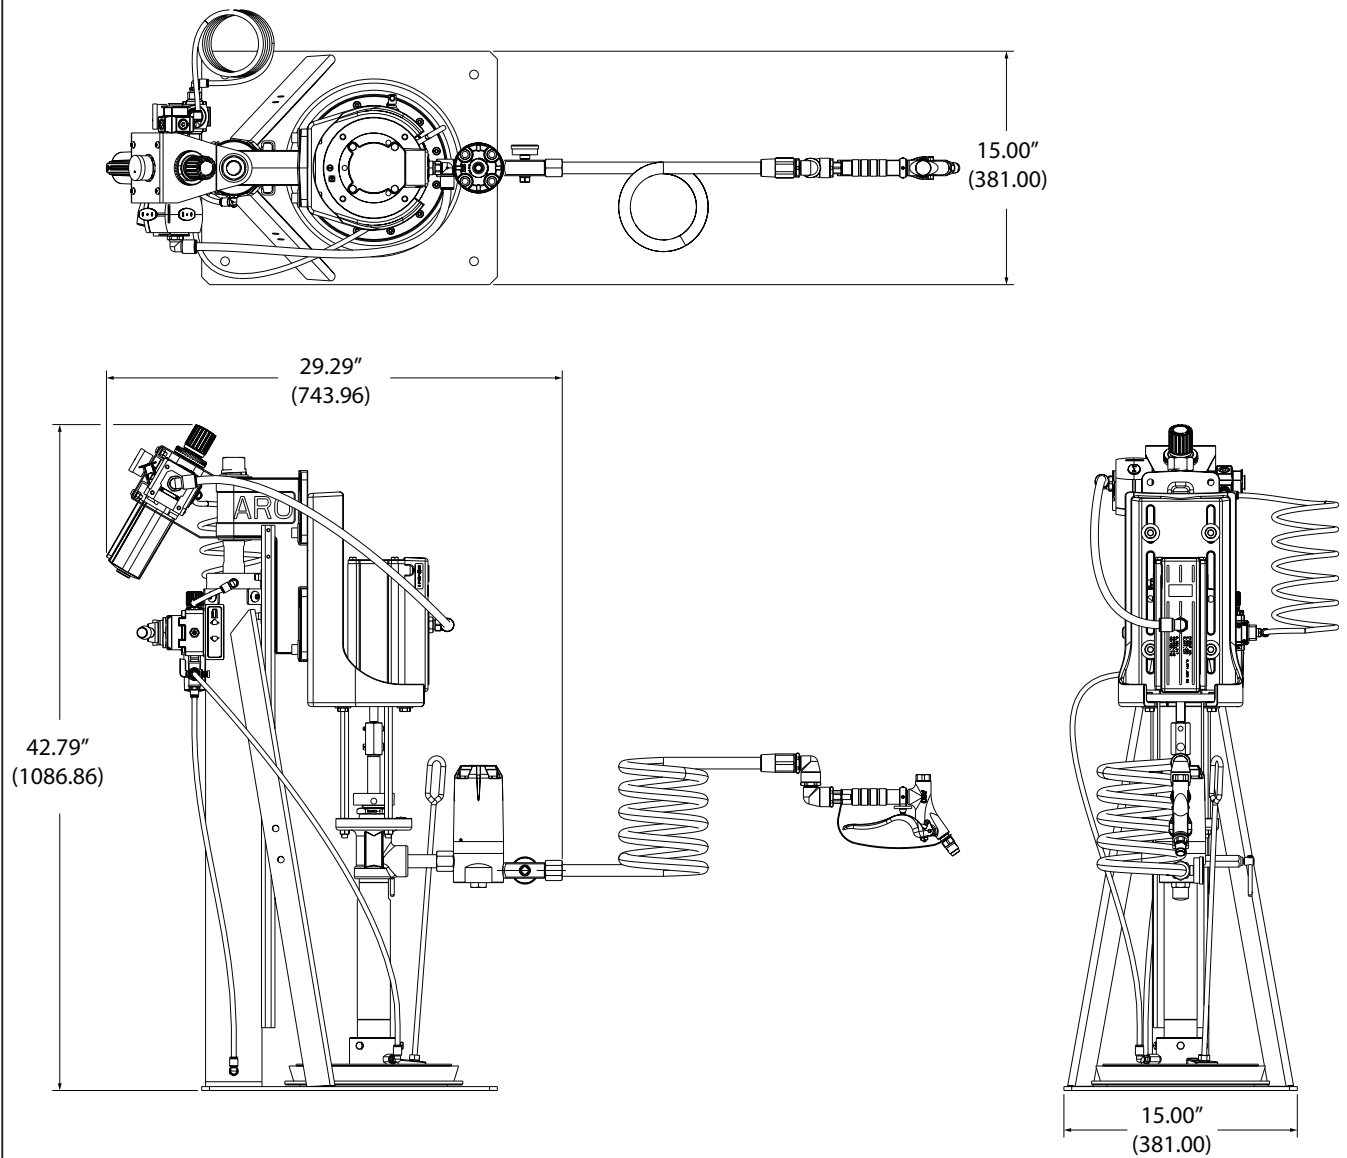

Figure 4
**PARTS LIST / 650820****Figure 4**